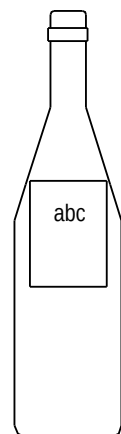

fig. 13
- If the bottle is like in fig. 13 (too high label), unscrew and move towards right the support of the micro-switch for as many mm as the desired position of the label; repeat the operation until the required position. If the label is too down, move the support towards left and do as already said above.